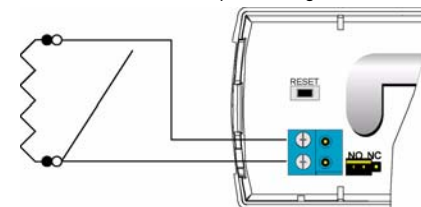

Figure 4 Wired for N/O operation
8. Use 22 AWG wire to wire the 2.2K ohm resistor in parallel with the N/O contact per Figure 4. The distance from the external contact to the EN1215WEOL must not exceed 10 feet (3 meters).